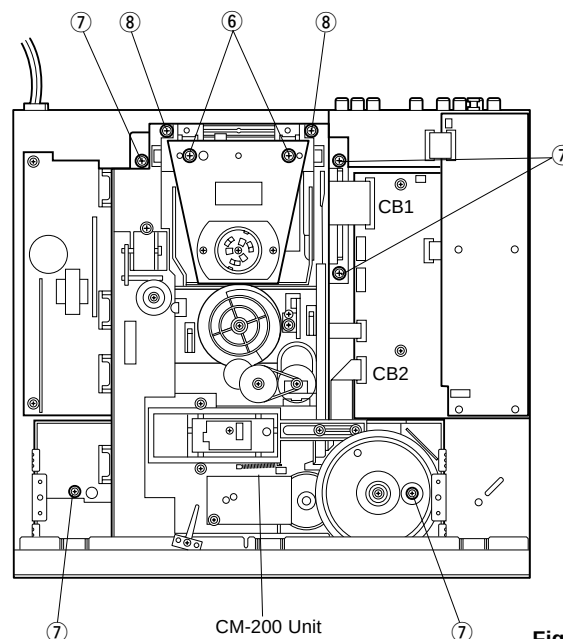

Fig. 4
- Remove 2 screws (⑥) as shown in Fig. 4.
- Remove 5 screws (⑦) as shown in Fig. 4.
- Remove 2 screws (⑧) and then remove the PU Ass'y as shown Fig. 4.